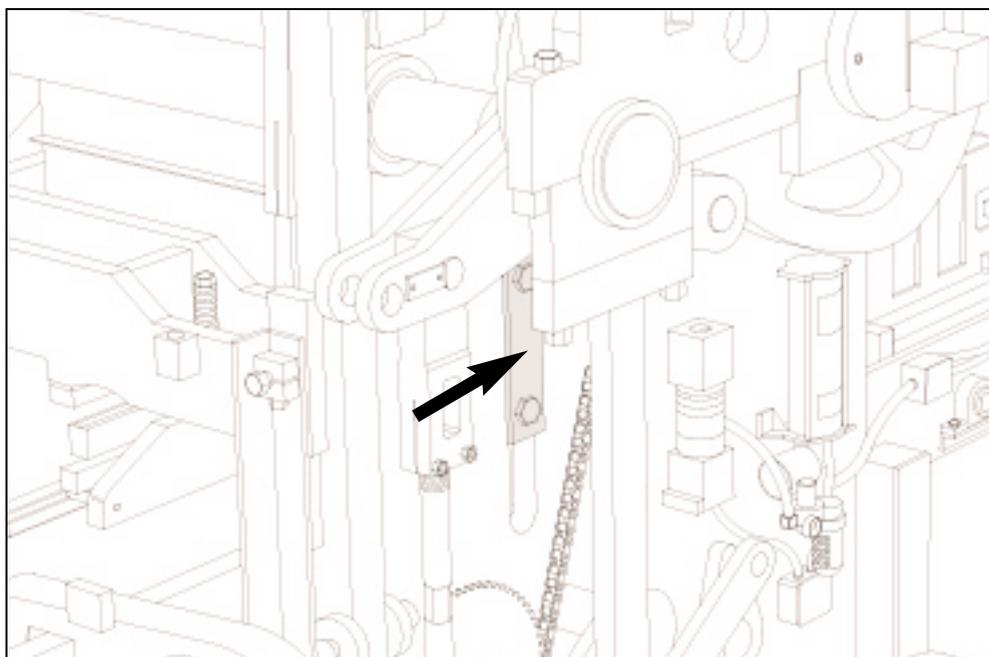

Figure 18.24 LOOSEN "T" CLAMPS ON BOTH SIDES.
a. Loosen the "T" clamps on each side of machine that secure machine side plate to mold throat plate. (Figure 18.24)